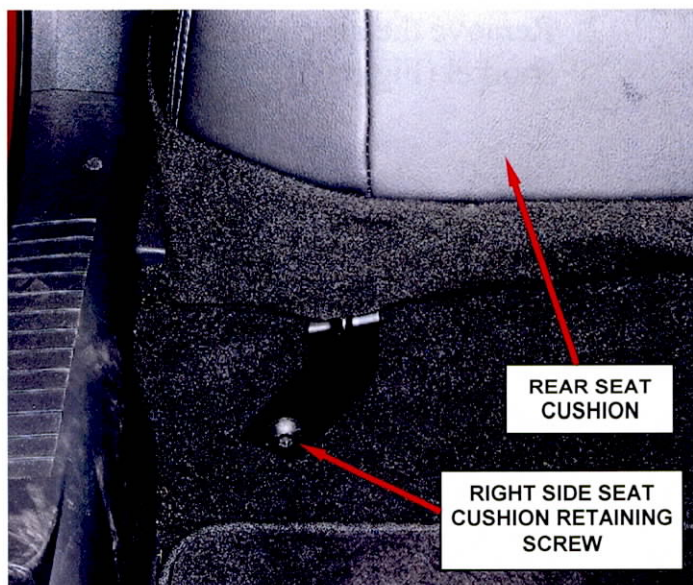

Figure 1 – Cushion Retaining Screw
- a. Remove and save the two rear seat cushion retaining screws (Figure 1).
48. Install the rear seat cushion. Tighten the two rear seat retaining screws securely (Figure 1).